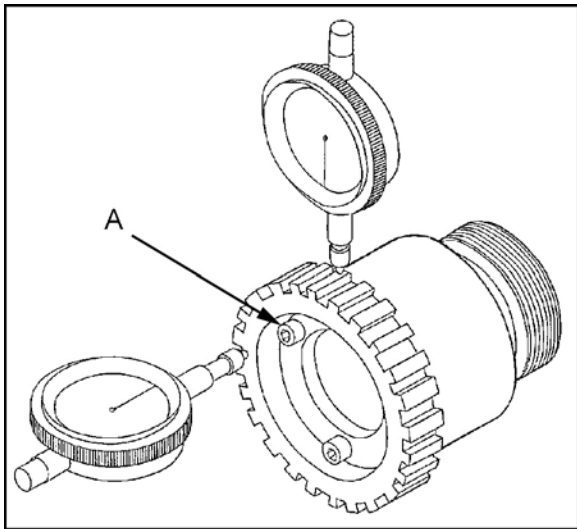

Figure 2
7. Measure the runout on coupling using a dial indicator. The runout should be 0.005" or less. Adjustments can be made by loosening three hex socket cap screws (A, Figure 2).